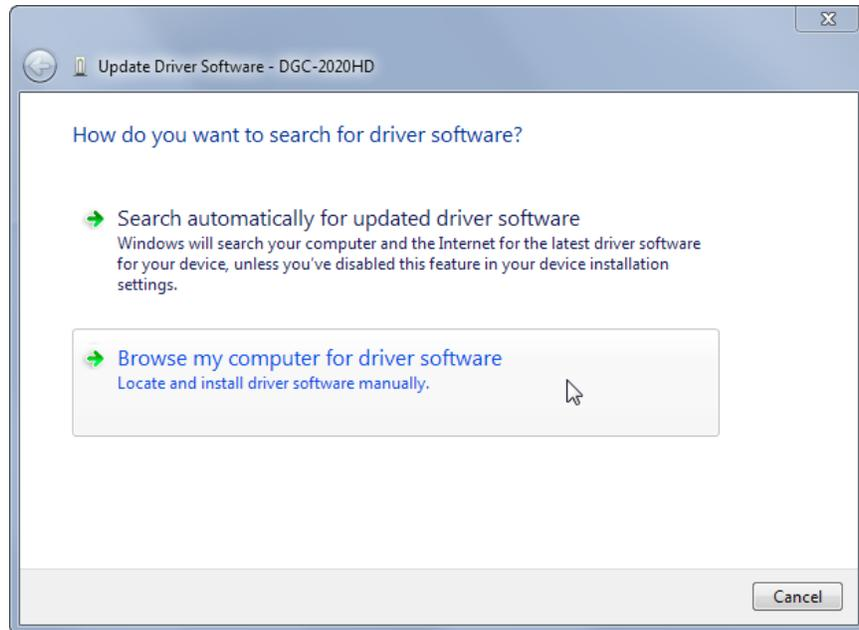

Figure 24-4. Update Driver Software - DGC-2020HD
Step 4. Select Browse My Computer for Driver Software as shown in Figure 24-4.